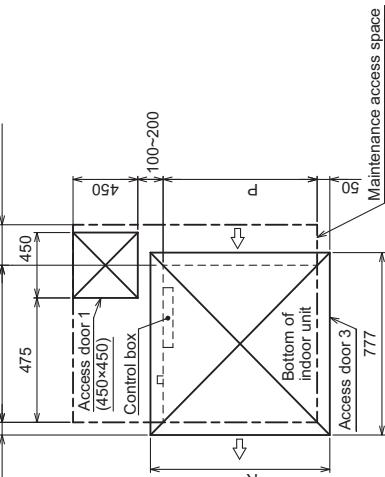

Fig.3 (Viewed from the direction of the arrow B)
- (2) When a space of less than 300mm is available below the unit between the unit and the ceiling.
- (At least 20mm of space should be left below the unit as shown in Fig.3.)